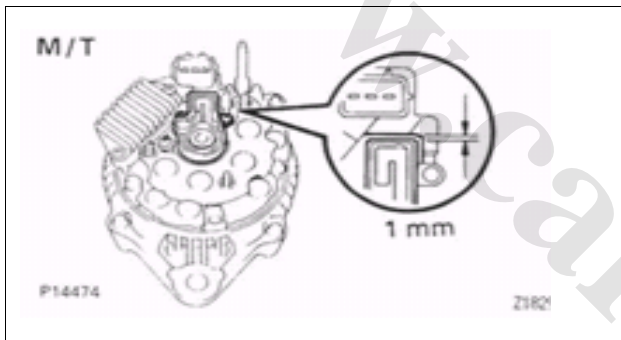

Figure 442
- Install 5 screws and make the clearance between the brush holder and the connector about 1mm (0.04in). (see Fig.442 **Figure 442**)